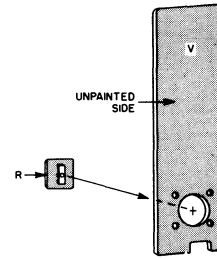
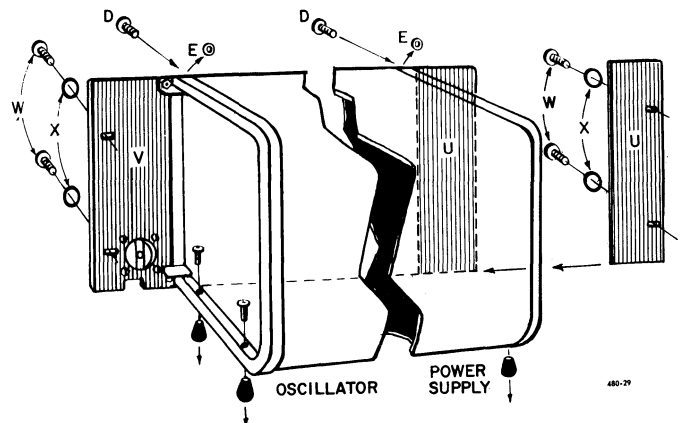

Figure 2-6. Installation of the cover plate.
Figure 2-7. Rack installation of oscillator with power supply.
- e. Assemble the cover plate (R) and mount it over the hole (Figure 2-6). To do this, push the spring into the mounting hole from the front.
- f. Remove the outside pairs of front panel screws (D) and spacers (E) from both instruments.
- g. Attach panels (U) and (V) as shown in Figure 2-7. Install the clips in place of the spacers (E) and fasten them with the screws (D).
- h. Use the 5/8-inch No. 10-32 screws (W) and nylon washers (X) (supplied) to attach the assembly to the relay rack. Patch cords connecting front and rear points (if any) can easily pass through the small notch at the bottom of panel (V).